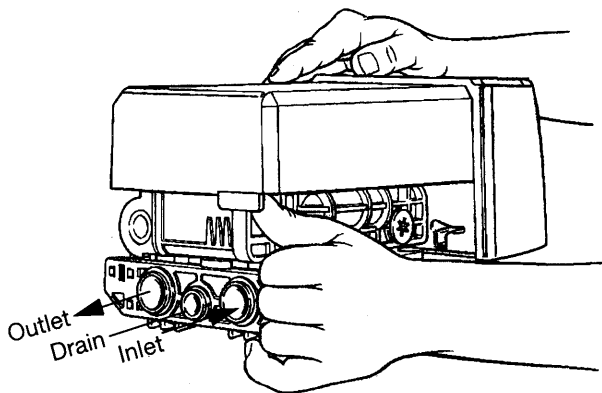

Figure 14
3. Remove the rear cover by pushing back on the tab provided on the cover, Figure 14, and lift the rear cover off the valve.
3. Relieve system pressure by opening the drain flapper (the fifth flapper back from the control), Figure 14.